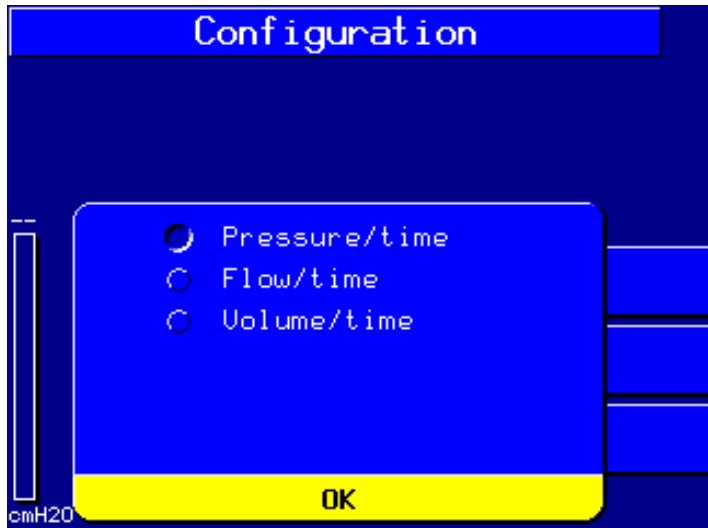

Figure E-9. Curves selection window, configuration mode
1. Select **Curves**. You will see the curve selection window (Figure E-9).